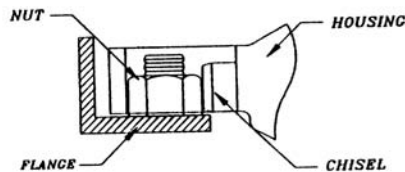

Figure 7
3. Extend the chisel slowly until it makes contact with the nut face. Check that the chisel is resting squarely on the center of the nut flat (see *Figure 7*).